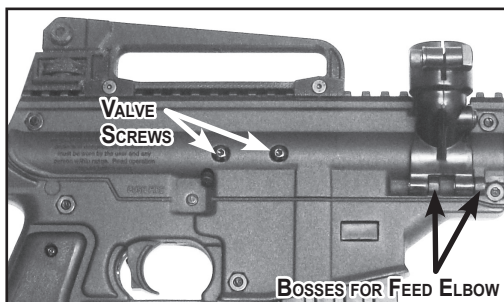

Figure 14: Valve Screws and Feed Elbow
1. To remove the Power Tube and **Valve** (5), unscrew two **Screws** (8) from the right side of the receiver shown in Figure 14.
2. To remove the Valve from the Power Tube, use a wrench to slowly unscrew the **Gas Line** (6) fitting. Once the fitting is out, the Valve will slide out the back of the power tube.